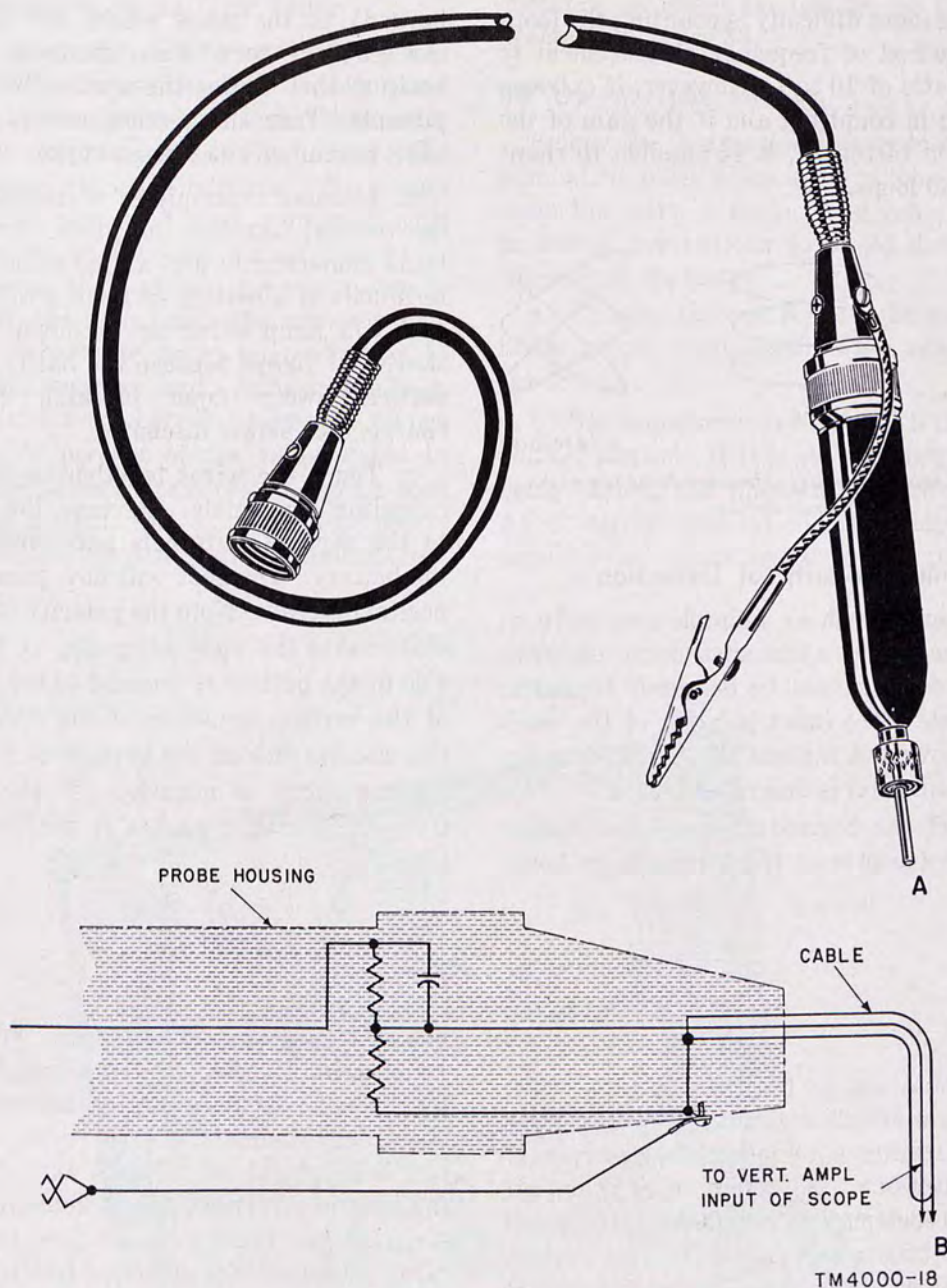

Figure 31. Input probe for oscilloscope.
e. Sometimes it is necessary to use a voltage-divider probe such as the one shown in figure 31. This probe is useful for high input signal voltages and prevents overloading of the oscilloscope amplifiers. The probe cuts down the signal by a known amount so that a true evaluation of the signal amplitude is possible. The probe also isolates the oscilloscope from the circuit under test so that loading is held to a minimum. As in the case of multimeters, capacitive loading can be reduced by the addition of a resistor in series with the hot test lead, if a probe is not available.